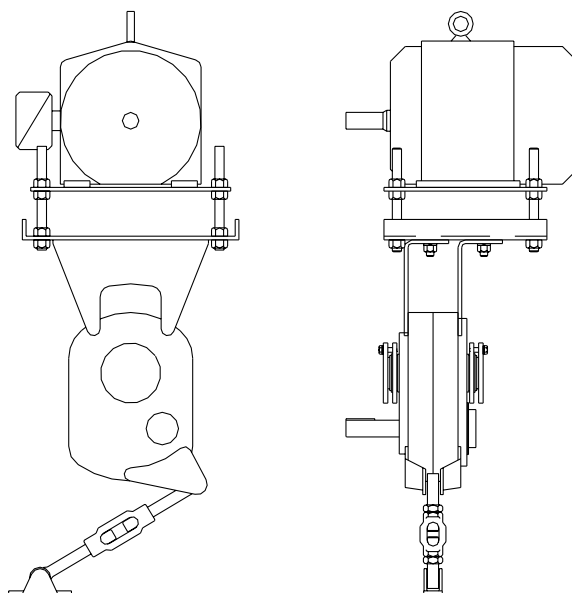

Figure 6 - Motor Mounts
The Torque-Arm (TA) motor mount is designed to be installed on the output end of the reducer as shown in Figure 6. If bottom mounting is desired, use the optional TAB style.